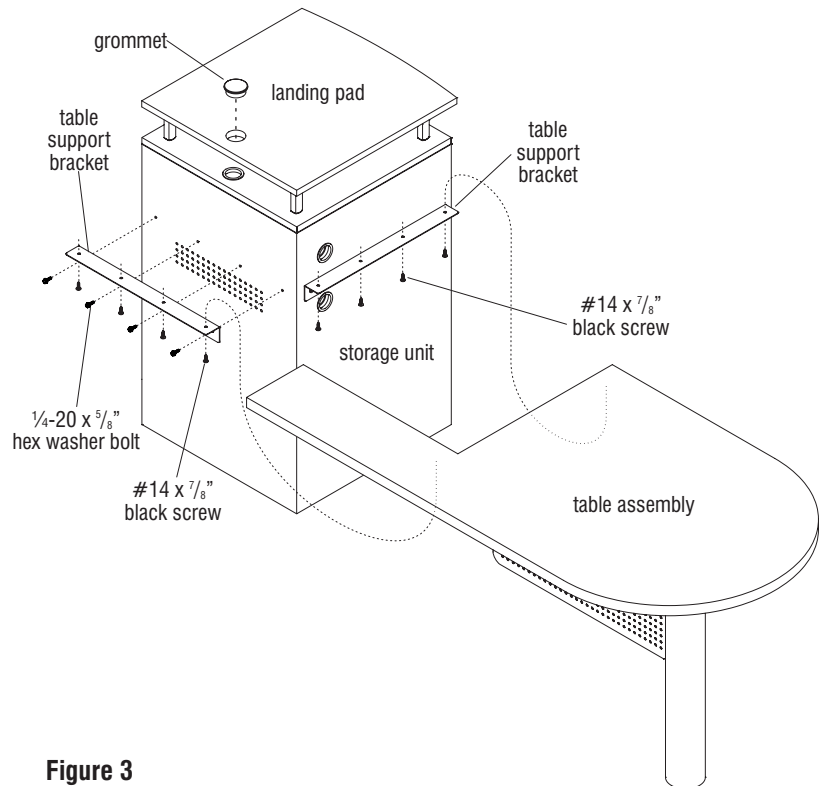

Figure 3
9. Locate the landing pad on the storage unit and place the grommet into the top side of the landing pad as illustrated (Figure 3).
10. Position one table support bracket over the pre-drilled holes in the side of the storage tower and secure using four 1/4-20 x 5/8" hex washer bolts as illustrated. Repeat procedure for second table support bracket at adjacent side to the first. (Figure 3).
11. Carefully turn table assembly to the upright position and rest the table onto the table support brackets installed to storage unit. Align pre-drilled mounting holes at underside of table with holes in both table support brackets and secure brackets to table using four #14 x 7/8" black screws per bracket (Figure 3).